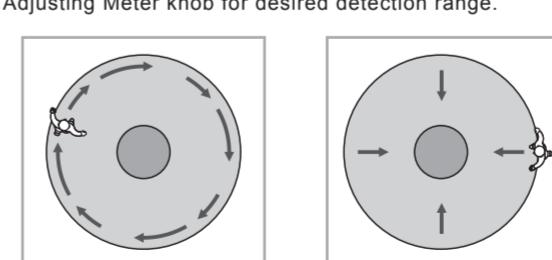

FIG.19
5.3.4 Walk from outside across or toward to the detection coverage until LED and load turn on for 2sec (See FIG.19).